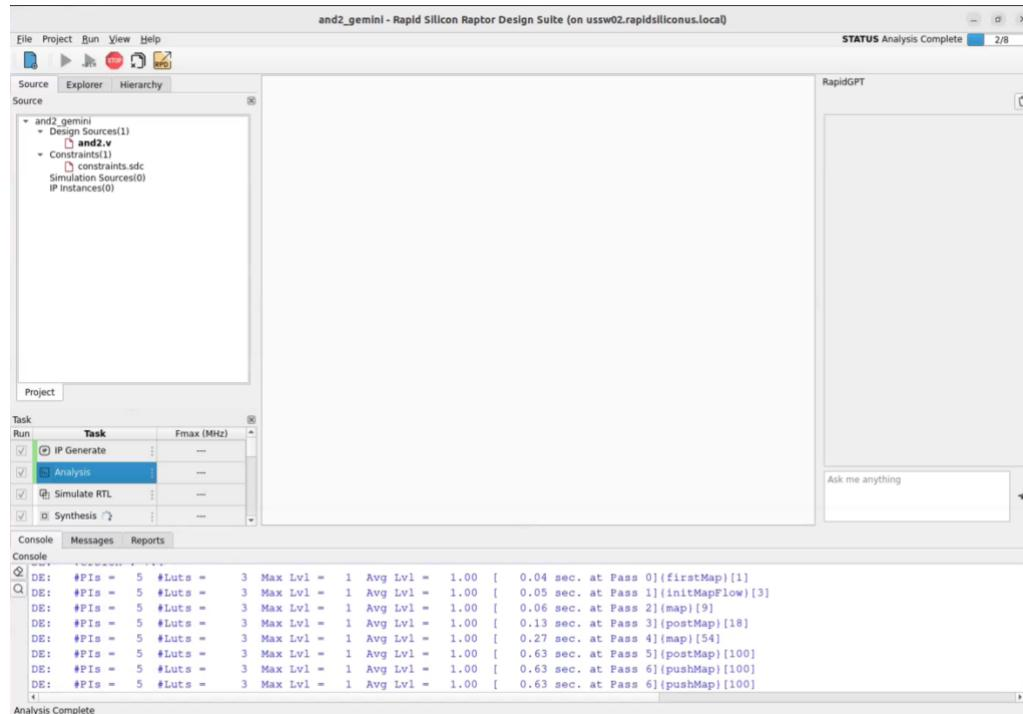

Figure 22. Compilation in Progress
13. Compilation in progress: During compilation, messages will be printed to the Tcl console. The task view's status column shows the current compilation step and a progress bar on top right is active until completion as shown in Figure 22.